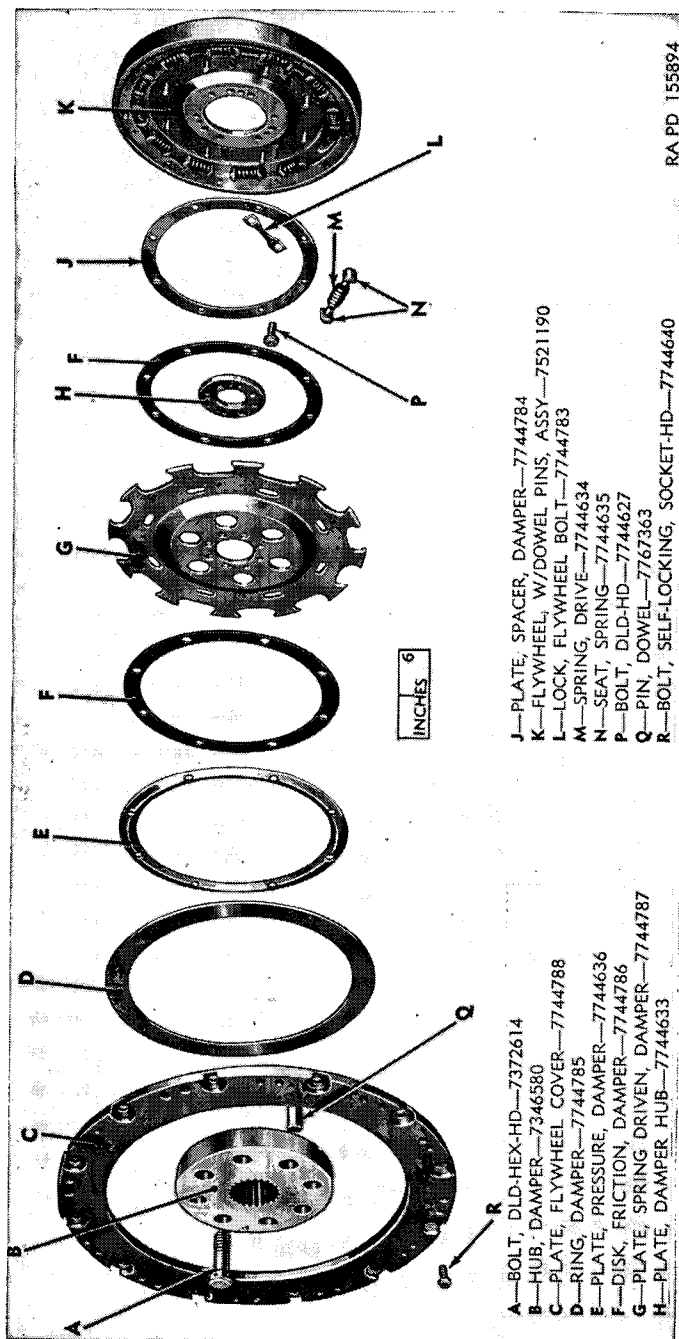

Figure 24. Flywheel and torsion damper assembly—exploded view.
53. Removal of Flywheel and Flywheel Torsion Damper (fig. 24)
a. Remove the four drilled hex-head bolts (A) holding the splined torsion damper hub (B) to the damper hub plate (H). Remove the hub.